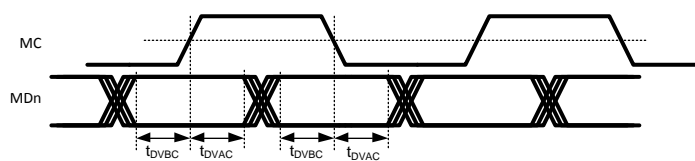

Figure 2. Serial Data Valid
| t DVBC    | Serial Data Valid before Clock Edge | SER Data Pulse Width <a href="#">Figure 2</a> , (2) (3) | 0.38 |                    |     | UI          |